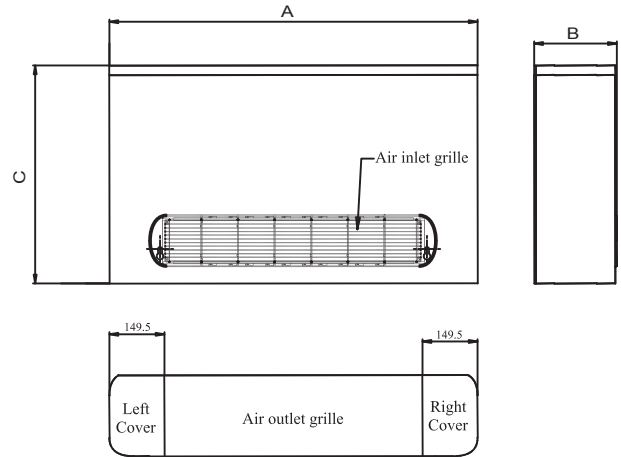
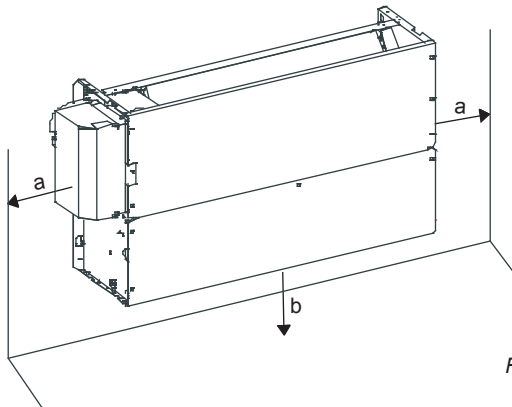

Fig. 4-1
Fig.4-5
4.1 The units may be mounted vertically, provided that the correct clearances for positioning are maintained. (Refer to Fig. 4-1~Fig.4-5)